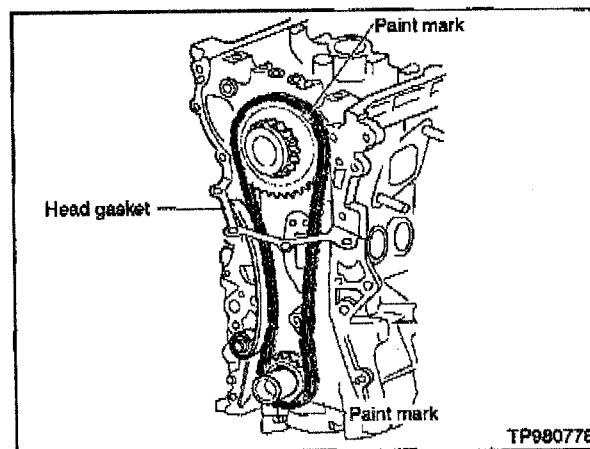

Figure 3
11. Wipe off the links of the timing chain next to the timing marks on the sprockets. Apply paint marks to the lower timing chain, matching them with the mating marks on the crankshaft sprocket and idler sprocket (see Figure 3).